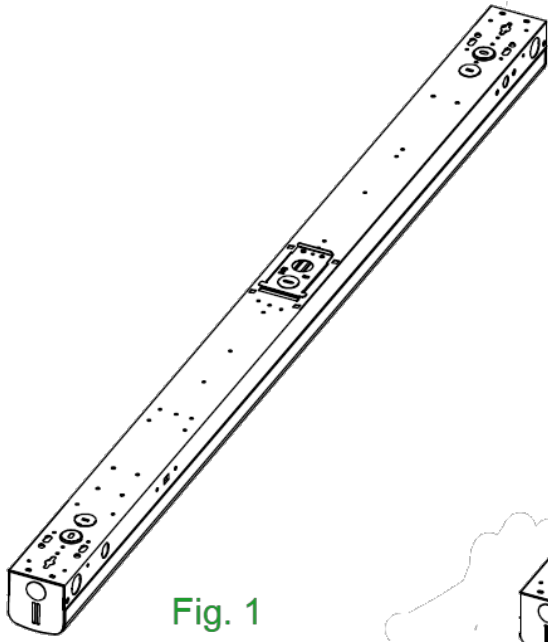

Fig. 1
Universal voltage driver permits operation at 120V through 347V, 50/60Hz. 0-10V control wires must be rated for 300V minimum. For 0-10V dimming, follow the wiring directions in Fig. 1.
- Put fixture up (Fig. 1)